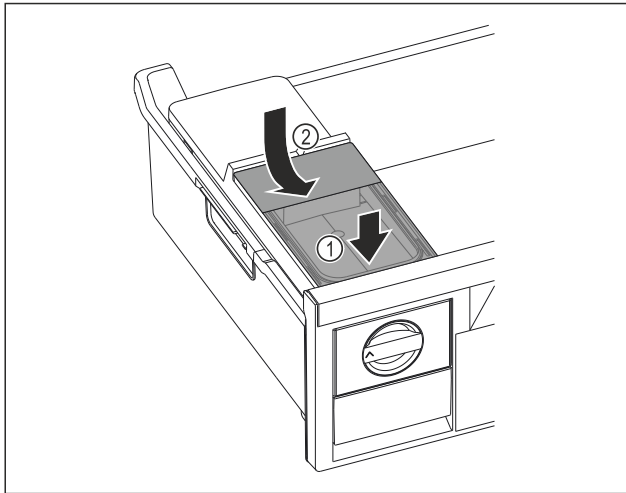

Fig. 68
- ▶ Position the water tank at the front. Fig. 68 (1)
- ▶ Lower the water tank at the rear. Fig. 68 (2)